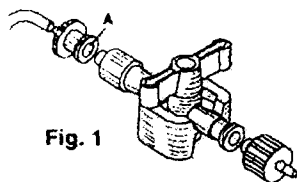

Fig. 1
purposes or for transportation from one operatory to another by simply turning the stop-cock lever through 90 degrees (fig.1). The quick-disconnect luer fitting (A) can then be disconnected.